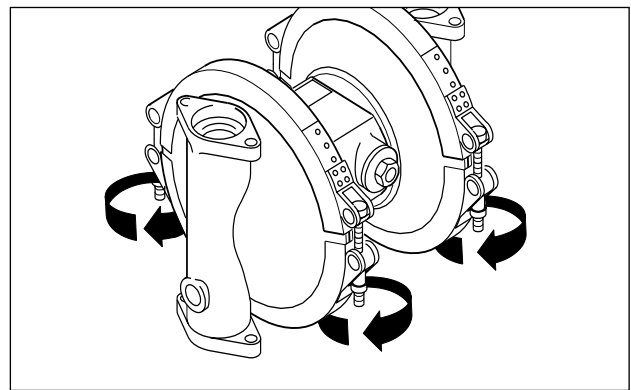

Fig. 9: Opening the clamp bands.
- Loosen the clamp bands (to avoid sizing of high-grade steel nuts and bolts, if necessary apply some oil) (Fig. 9). On the polished high-grade steel versions (DB, DH) unscrew the milk pipe fitting.